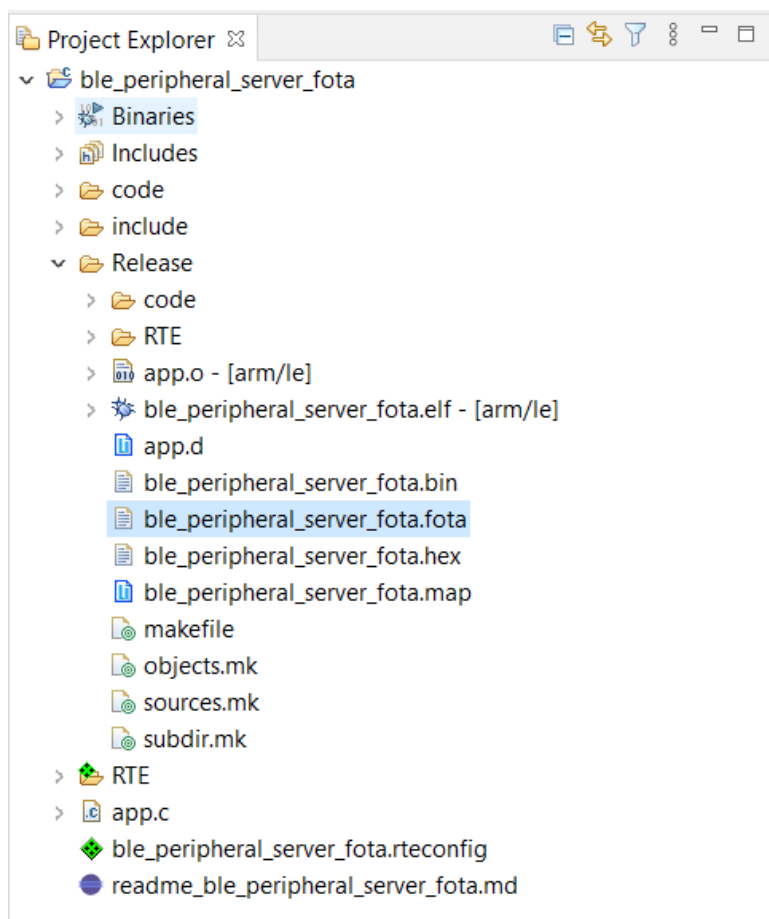

Figure 7. .fota Image in Release Folder
4. Build the *ble_peripheral_server_fota* project. After a successful build, the *ble_peripheral_server_fota.fota* image is generated under the *Release* folder, as seen in the "*.fota Image in Release Folder*" figure (Figure 7):